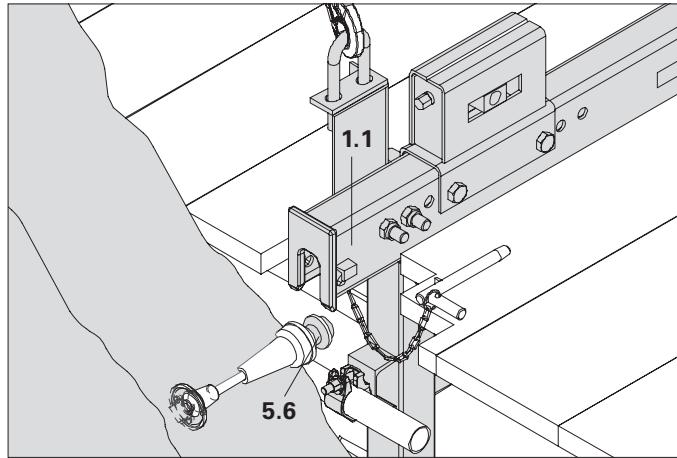

Fig. B1.21
- Have the safety pins (1.5) been completely removed? (Fig. B1.21)
- (Fig. B1.21)